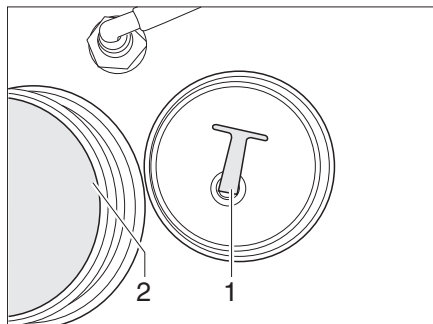

Fig. 285 Stopper
- Screw the stopper (Fig. 285,1) out of the drainage opening (Fig. 285,2). The water drains off.